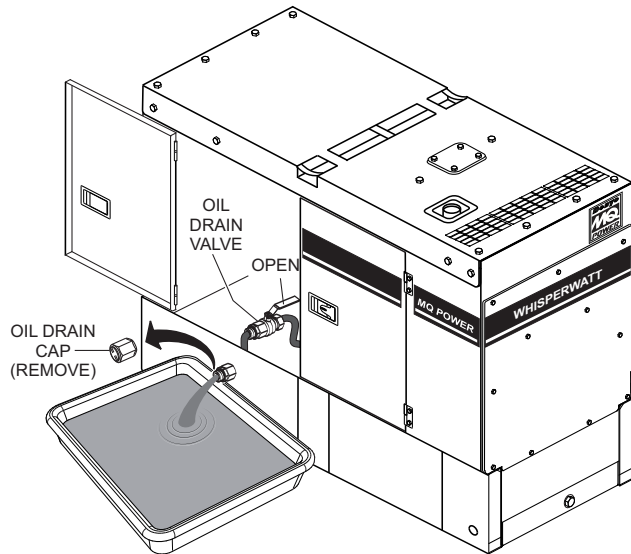

Figure 71. Draining The Engine Oil
3. Remove the **oil drain cap** (Figure 71).